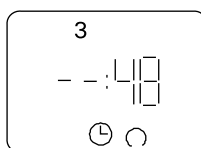

Figure 22.
- cancel hours and minutes so that the blank dashes symbol appears (- - : 48) or (19 : - -) (Fig. 22 and 23)